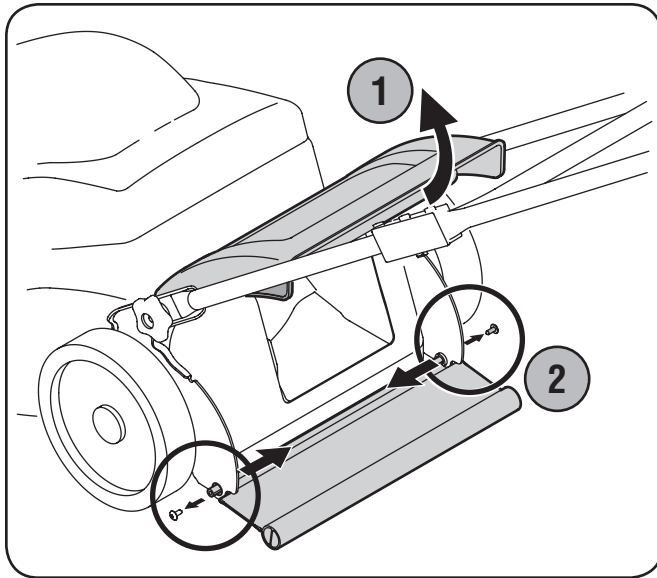

Figure 6-2
2. Press shield in on either side to remove from hole. See Fig. 6-2.